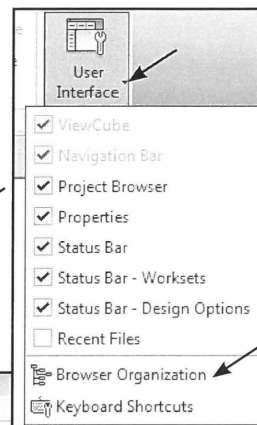

Fig. 13.22. *Browser Organization*.
- Tryk *View - User Interface - Browser Organization* (Fig. 13.22).